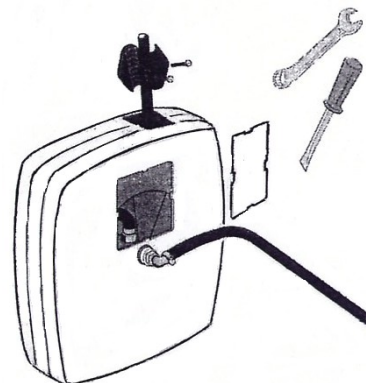

Fig 5
- 3) Remove the plastic cover. (Refer Fig 5)
- 4) Pull the hose out of the reel. Using a suitable size spanner, unscrew and remove the hose from the nipple. The nipple can be accessed through the window on the side of the reel. (Refer Fig 5)
- 6) Feed the new hose through the reel outlet and attach it to the nipple located inside the drum assembly. Access is through the window on the side of the reel. (Refer Fig 5)